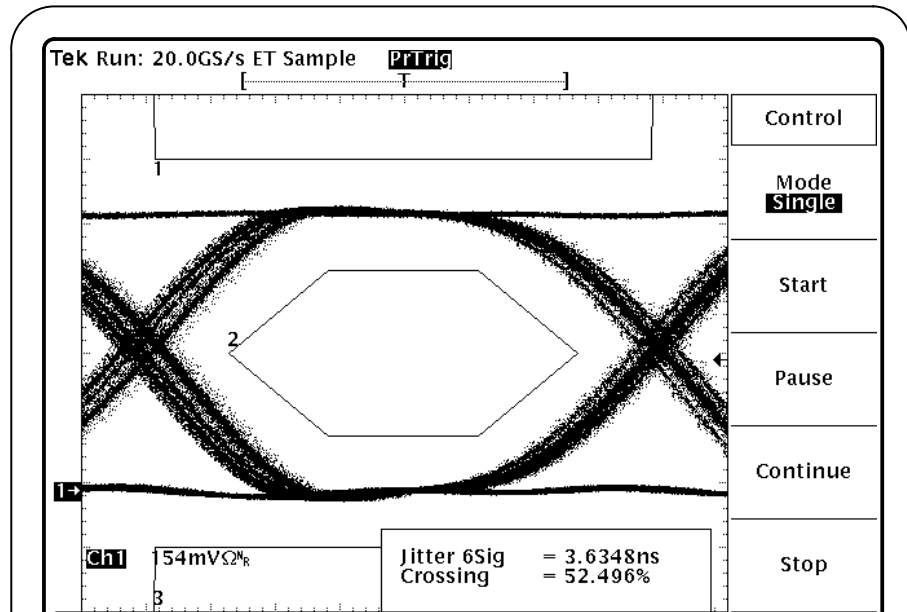

Figure 8: An OC1/STM0 eye-diagram, and Results readout
4. Wait for the calculations to complete. Figure 8 shows the mask pattern, the OC1/STM0 eye-diagram, and the measurement Results readout.